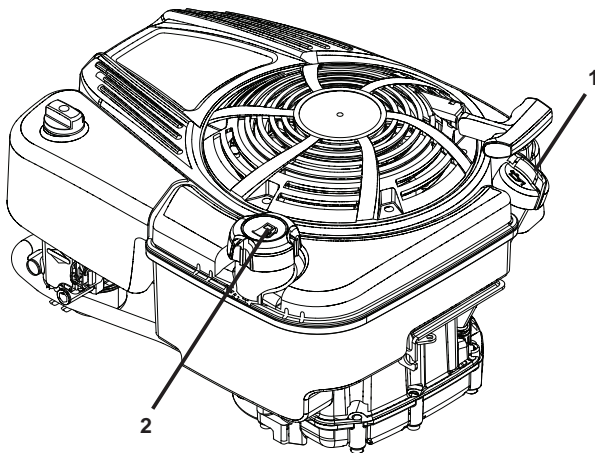

Figure 15
2. Remove dipstick from oil fill spout (Figure 15).
**IMPORTANT:** Fill fuel tank to bottom of tank filler neck. Do not overfill. Use fresh, clean, regular unleaded gasoline with a minimum of 87 octane. Do not mix oil with gasoline. Purchase fuel in quantities that can be used within 30 days to assure fuel freshness (Figure 15).